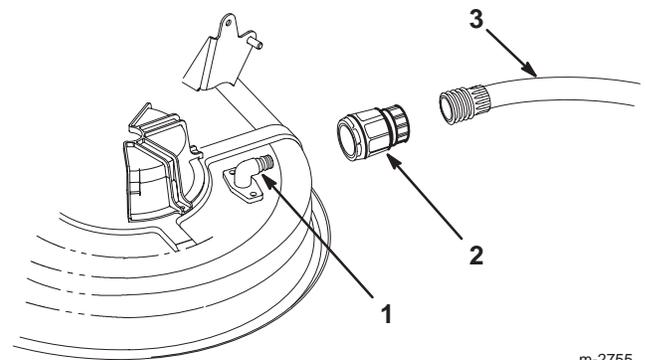

Figure 53
- Screw the coupling to the end of a garden hose, attach the coupling to the mower washout fitting, and turn the water on high (Fig. 53).